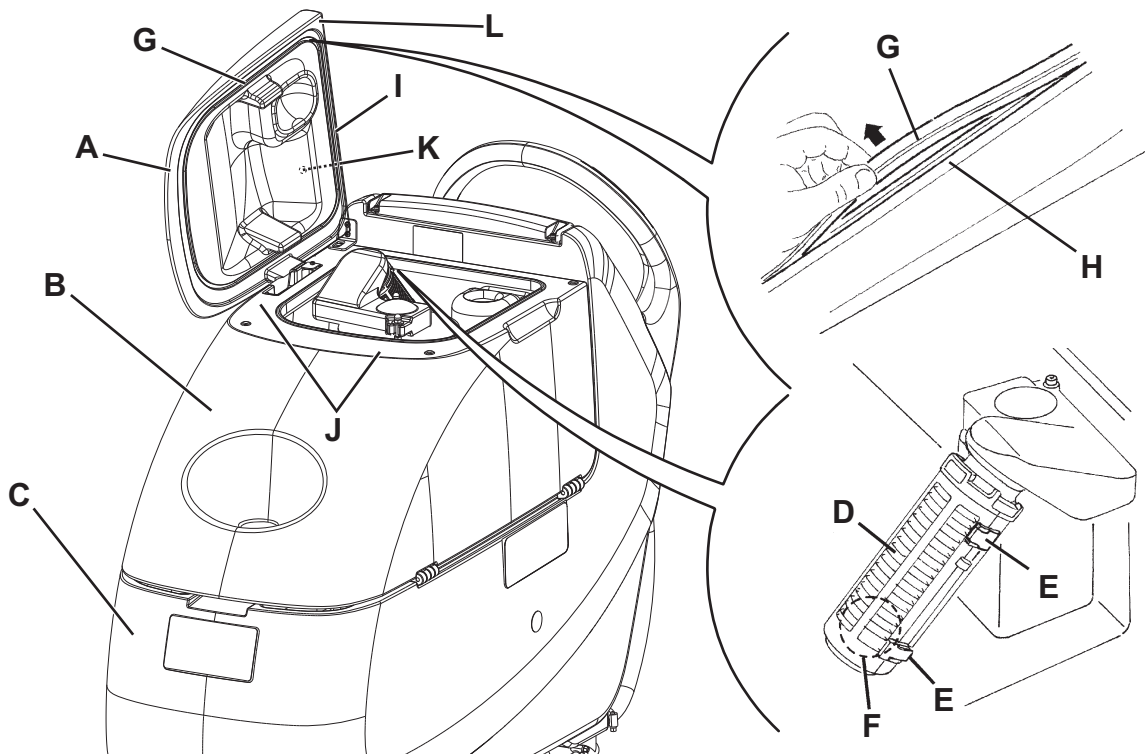

Figure 4
1. Disconnect the power supply cable (3) from the electrical mains and place it on the holder (4).
3. Open the cover (18) to position (L, Fig. 4).
4. Wash with clean water the cover (A), the tanks (B and C) and the vacuum grid with automatic shut-off float (D). Drain the water from the tanks with the hoses (12 and 13).
5. If necessary, release the fasteners (E) and open the grid (D), recover the float (F), clean all the components and then reinstall them.
6. Check the tank cover gasket (G) for integrity.